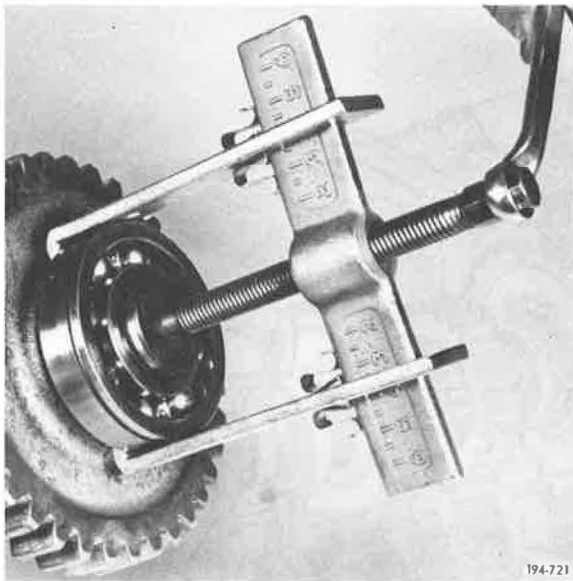

Figure 112. Removing Bearing
2. Remove front compound counter-shaft front bearing, using puller No. J-25031-2, or equivalent. See Figure 112.